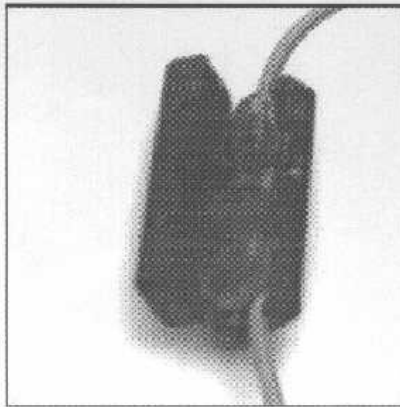

Figure 2-11. Spliced Cables in a Splice Enclosure
- 6 Using a Scotchlok crimping tool or a pair of Channel locks, squeeze the "button" on the Scotchlok until it is completely flat (Figure 2-11).
- 9 Tuck the Scotchloks into the splice enclosure and route the cables through the cutouts at the ends of the splice enclosure (Figure 2-11).